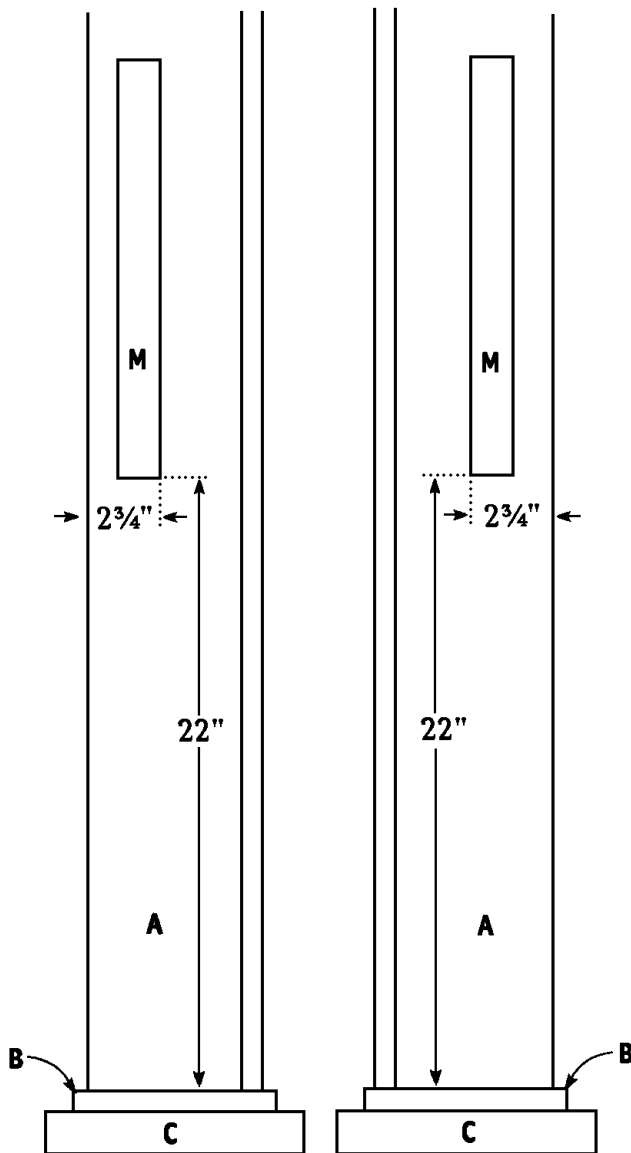

Figure 6
1. Cut four Supports (M) from 2 x 2 pine, each measuring 15 inches.
2. Attach two Supports (M) 22 inches above the bottom of two of the assembled columns into Side (A) as shown in *Figure 6*. Apply glue to the meeting surfaces and screw through the Support (M) into the Side (A) using four 2-1/2" wood screws on each joint. (**Note:** these supports attached to the columns will be used to support the headboard.)